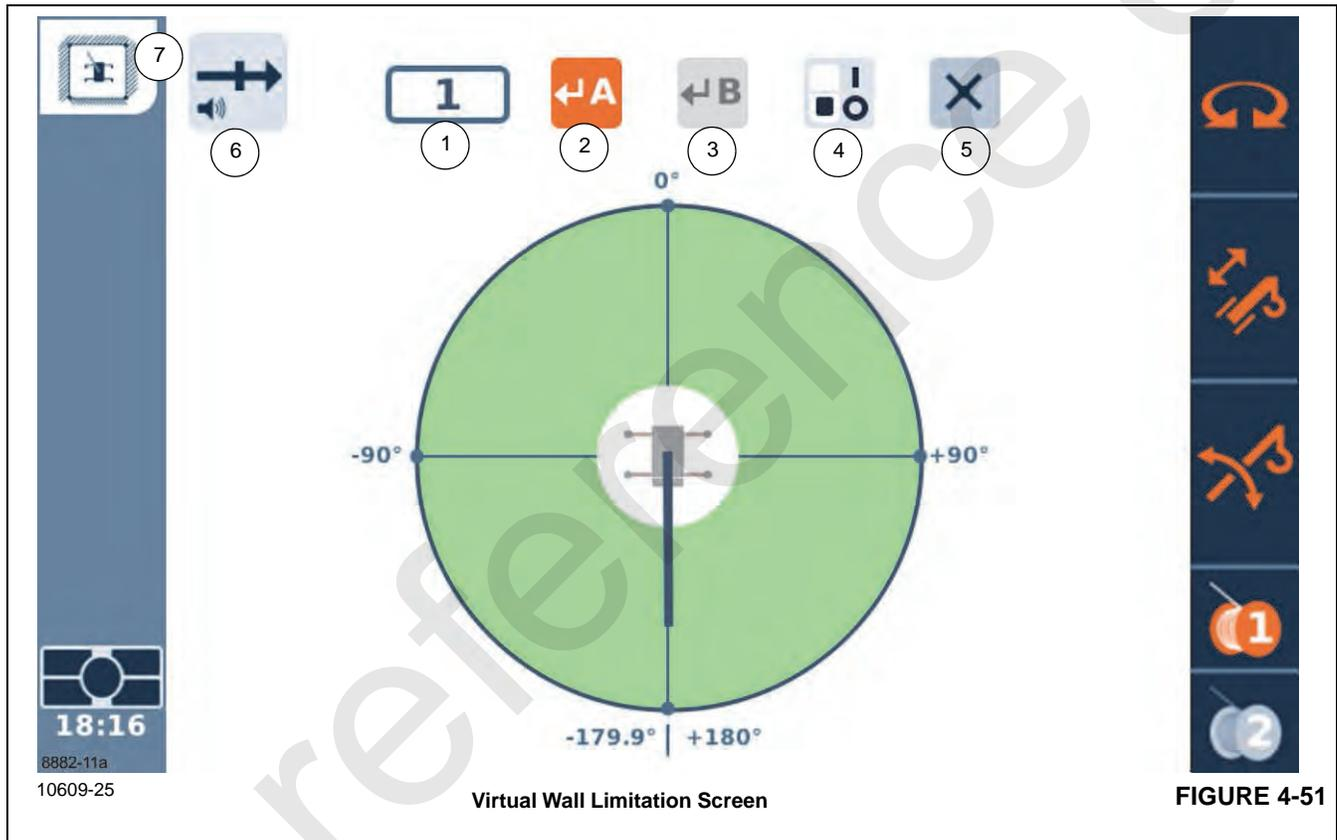

FIGURE 4-51
If the Virtual Wall Limitation is selected from the menu of WRL Limitations, then the Virtual Wall Limitation Screen will be shown (Figure 4-51).
As the arrow keys are pressed, the highlight will move between the objects, with the color orange typically meaning that the object is selected and can be affected by subsequent actions. In Figure 4-51, one can see that the wall Point "A" symbol is selected since it has the orange color highlighting.
1. Select the Virtual Walls Limitation Screen (6, Figure 4-46) on the Main Menu Screen (and in this case there would not be any virtual walls shown as defined or active) as noted in the Virtual Walls Number (1, Figure 4-51). (Note: The number "1" indicates the number of virtual walls and can be up to "5" five virtual walls defined.)
3. Use the Right Arrow (4, Figure 4-6) Function key to highlight the Accept Crane Position Point A Symbol (2), Figure 4-51.
5. Position the crane so that the hook is located at the position to define the second point of the Virtual Wall (Point B), or Item 3 (Figure 4-51). **NOTE:** The two points may not be so close to each other that a virtual wall is not clearly defined. The two points should be at least 10 ft apart.
6. Use the Right Arrow (4, Figure 4-6) Function key to highlight the Accept Crane Position Point B Symbol (3, Figure 4-51).
1. Be sure you are on the Virtual Walls Limitation Screen Icon (7, Figure 4-51).
2. Use the Right Arrow (4, Figure 4-6) function key to highlight the Virtual Wall Number Item (1, Figure 4-51).
4. Position the crane so that the hook is located at the position to define the first point of the Virtual Wall (Point A or Item 2) as shown in Figure 4-51.
5. Use the Right Arrow (4, Figure 4-6) Function key to highlight the Accept Crane Position Point A Symbol (2, Figure 4-51).
6. Use an OK Button (5, Figure 4-6) to accept the current crane position to be Point A as shown in Figure 4-51.
7. Position the crane so that the hook is located at the position to define the second point of the Virtual Wall (Point B or Item 3), (Figure 4-51).
8. Use the Right Arrow (4, Figure 4-6) Function key, if needed, to highlight the Accept Crane Position Point B Item (3, Figure 4-51).
9. Use an OK (5, Figure 4-6) Button to accept the current crane position to be Point B (3, Figure 4-51). The location of the point should now be shown on the screen with a label (1b) as shown in yellow highlight in Figure 4-52.
2. Use the Right Arrow (4), (Figure 4-6) key and to highlight the Virtual Wall Number (1), (Figure 4-51).
3. If the wall number shown is not the correct number for wall to be disabled, use an OK Button (5, Figure 4-6) to allow you to modify the value. (In other words, be sure that the number of walls you set matches the Virtual Walls Number (1), (Figure 4-51).
5. Use the Left Arrow and/or Right Arrow (4, Figure 4-6) keys or the Jog Dial (5, Figure 4-7) to highlight the Enable/Disable Switch Symbol (4, Figure 4-51).
2. Use the Right Arrow (4, Figure 4-6) Function to highlight the Virtual Wall Number (1, Figure 4-51).
3. If the wall number shown is not the correct number for wall to be disabled, use an OK Button (5, Figure 4-6) to allow you to modify the value. (In other words, be sure that the number of walls you set matches the Virtual Walls Number (Item 1), (Figure 4-51).
4. Use the Left Arrow and/or Right Arrow (4, Figure 4-6) key to highlight the "X" or the Remove Virtual Walls Symbol (5, Figure 4-51). Use an OK Button (5, Figure 4-6) or the Jog Dial (5, Figure 4-7) to delete the wall.